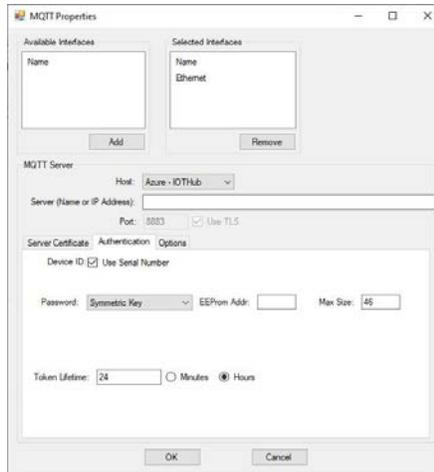

Figure 28-6B
- c. The Authentication tab requires additional configuration. Refer to Figure 28-6B.